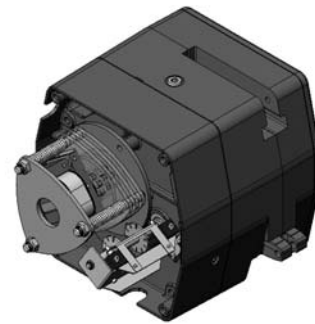

Figure 6 - Electrical Panel Removed
2. Remove the electrical panel by removing the stand-off screws (See Figures 16 & 17). The limit switch and brake are now accessible as shown in Figure 6.